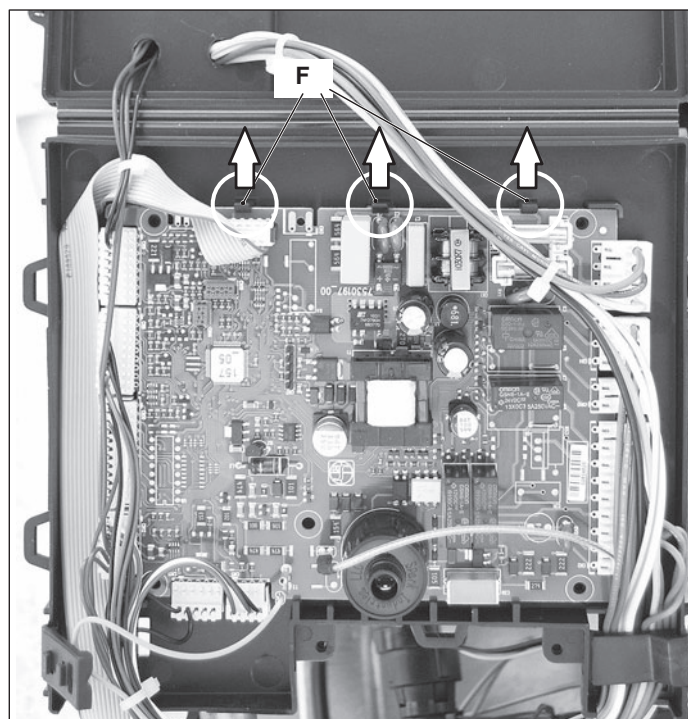

Figure 9.13
- 4 Delicately flex the hooks F in the directions indicated (Figure 9.13) in order to release the circuit from the box.